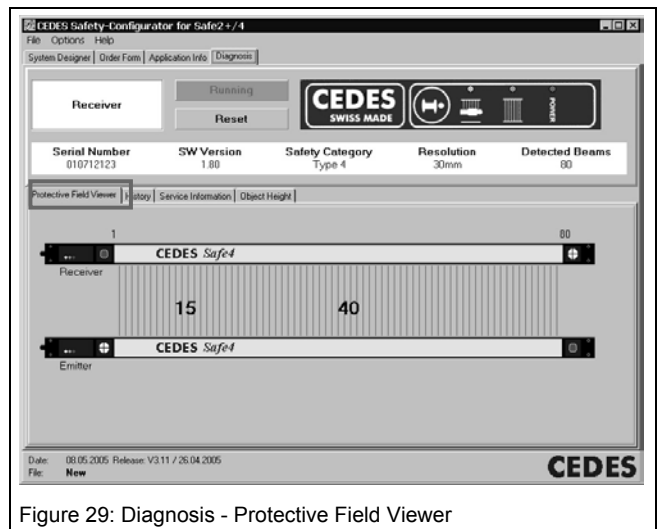

Figure 29: Diagnosis - Protective Field Viewer
- The suction cup is attached to the receiver controller: The software recognizes the application immediately, but displays the protective field viewer (Figure 29) only if a change of the status occurs (e.g. light curtain interruption)